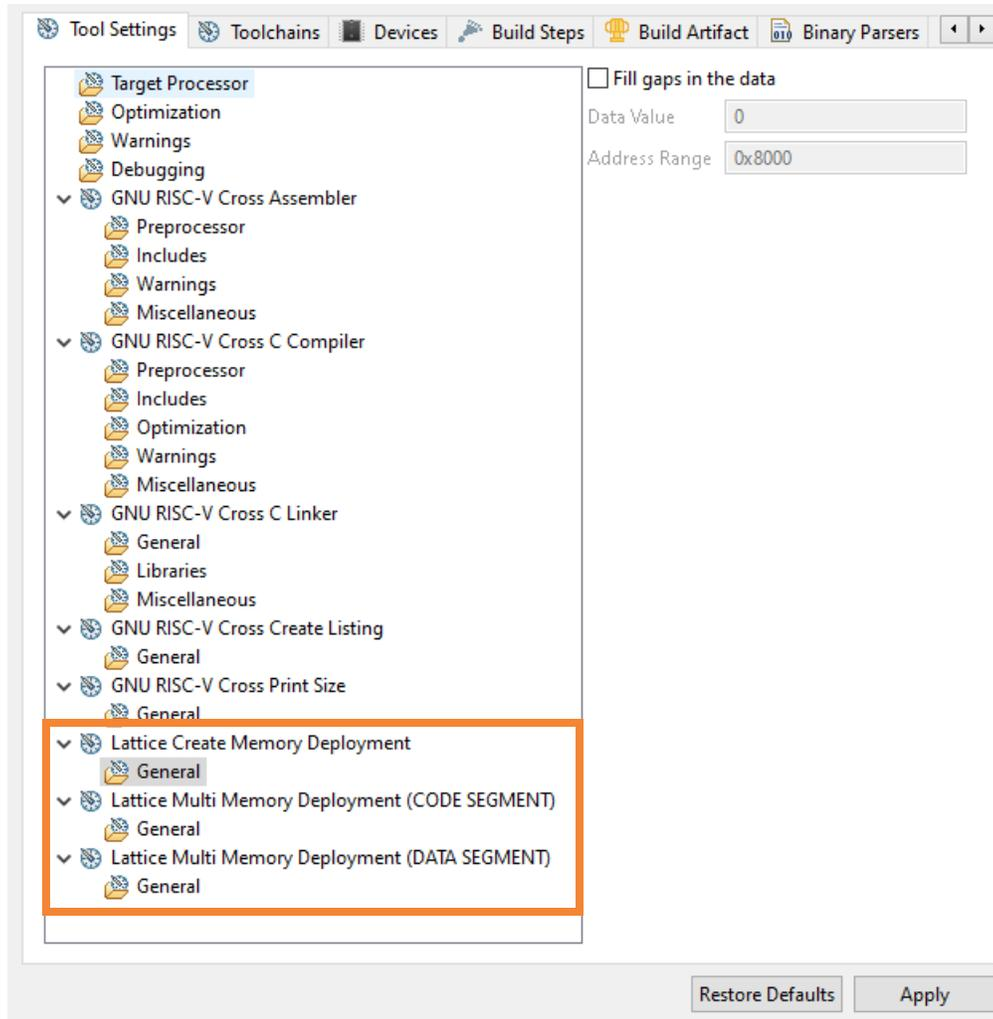

Figure A. 5. Tool Settings Tab of C/C++ Build Settings
- Go back to the **Tool Settings** tab. The relevant Lattice memory deployment tools can be found (Figure A. 5). Customize the tool options as needed.